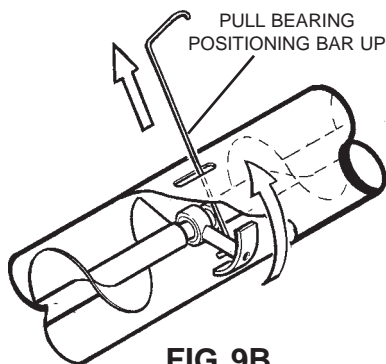

FIG. 9B
- Remove the bearing positioning bar and insert the single bent end into slot. Hook the internal bearing hanger stem and by pulling upward, the internal bearing hanger will rotate upward. See Fig. 9B on page 19.